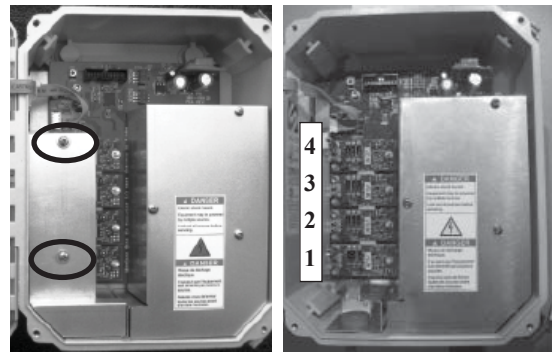

Figure 1 - Input Module positions
- c. Remove and retain the two screws with their flat washers. Remove the metal cover of the intrinsically safe section (see Figure 1).